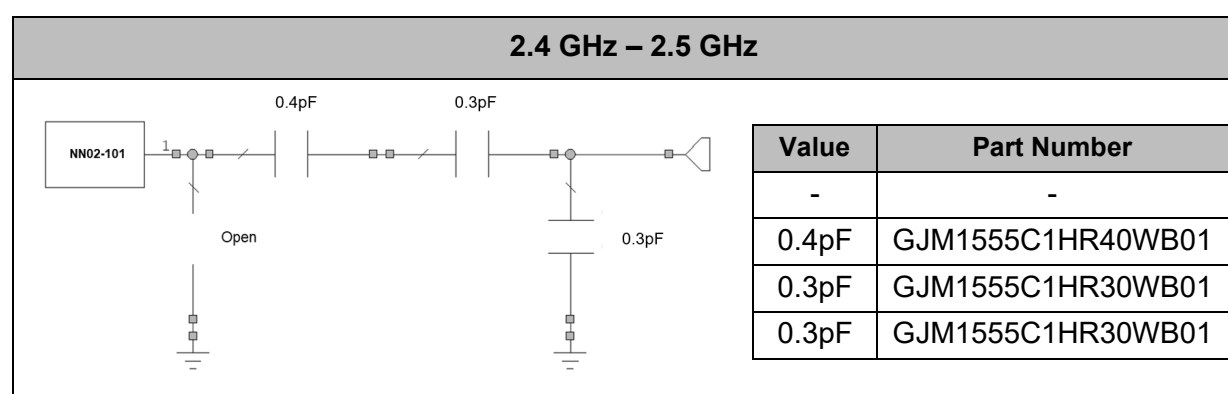

Figure 5 – Matching network implemented in the Evaluation Board (Figure 4) for covering Bluetooth from 2.4GHz to 2.5GHz.
By simply changing the matching network, the NANO mXTEND™ can also deliver optimal performance in an edge mounting configuration. A suitable matching network for edge mounting in the reference board pictured above is shown in Fig.5. Please note that different form factors of your wireless device and its RF ground planes, and the proximity of other elements such as shields, covers, connectors and the like might result in the need for a fine-tuning of the matching network.
To ensure optimal results, the use of high-quality factor (Q) and tight tolerance components is highly recommended (e.g. Murata components with part numbers as shown in **Figure 5**). The antenna performance is always conditioned by its operating environment meaning that differences in the device, including differences in printed circuit board sizes, components near the antenna, displays, batteries, covers, connectors, etc. affect the antenna performance. Accordingly, placing pads compatible with 0402 and 0603 SMD components for a matching network as close as possible to the feeding point of the antenna element is highly recommendable. It is recommended to do this in the ground plane area, not in the clearance area. By tuning the matching network in your final design after your final surrounding components are in place (batteries, displays, covers, etc.) you will be able to optimize the antenna performance without changing the antenna part, or the design.